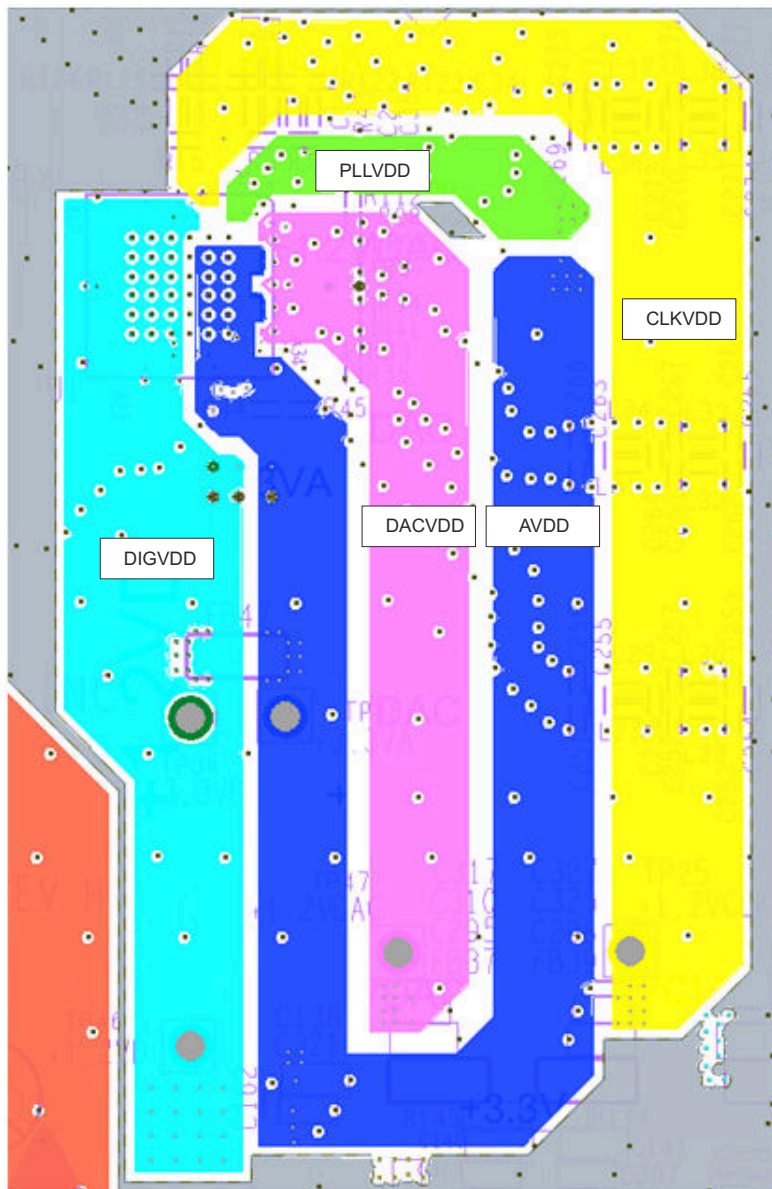
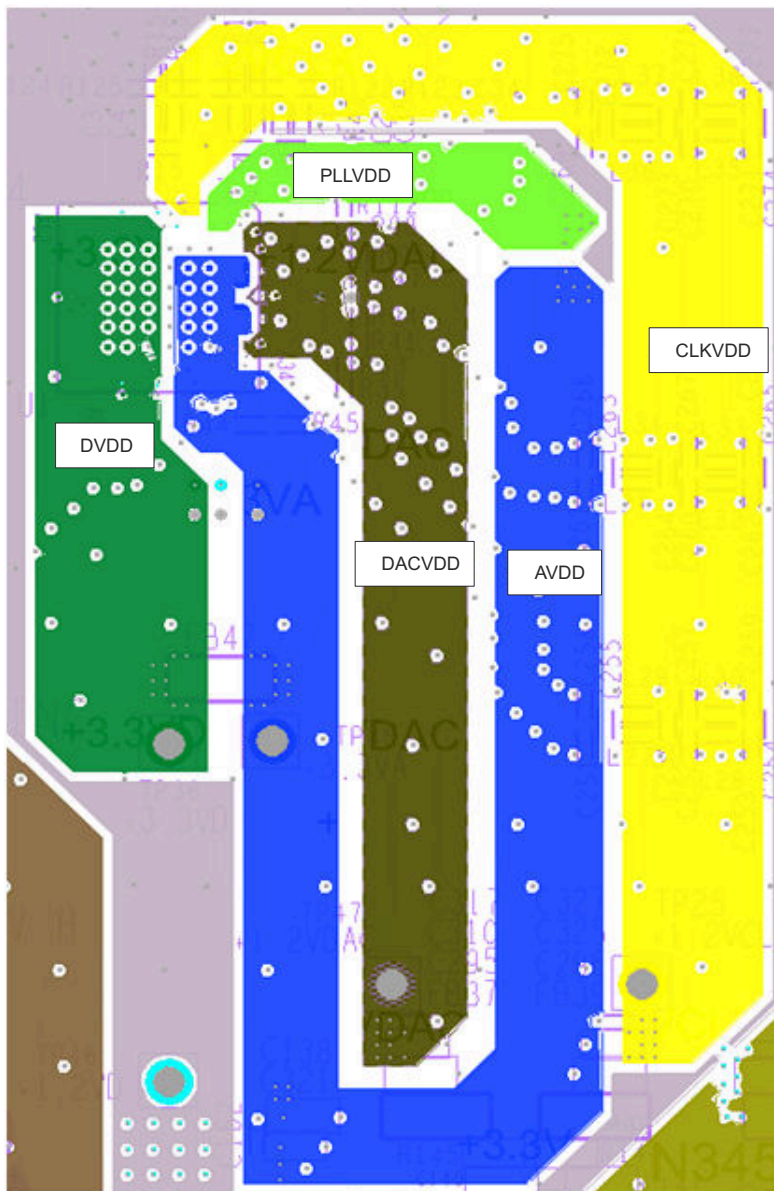

Figure 7-11. Third Layer of DAC3482 Layout Showing Power Layers. Layout Example from DAC3482EVM Rev H
Figure 7-12. Fourth Layer of DAC3482 Layout Showing Power Layers. Layout Example from DAC3482EVM Rev H
The following layout guidelines correspond to the layouts shown in Figure 7-11 and Figure 7-12.
2. As shown in Figure 7-11 and Figure 7-12, both layers three and four are designated for power supply planes. The DAC analog powers are all in the same layer to avoid coupling with each other, and the planes are copied from layer three to layer four for double the copper coverage area.